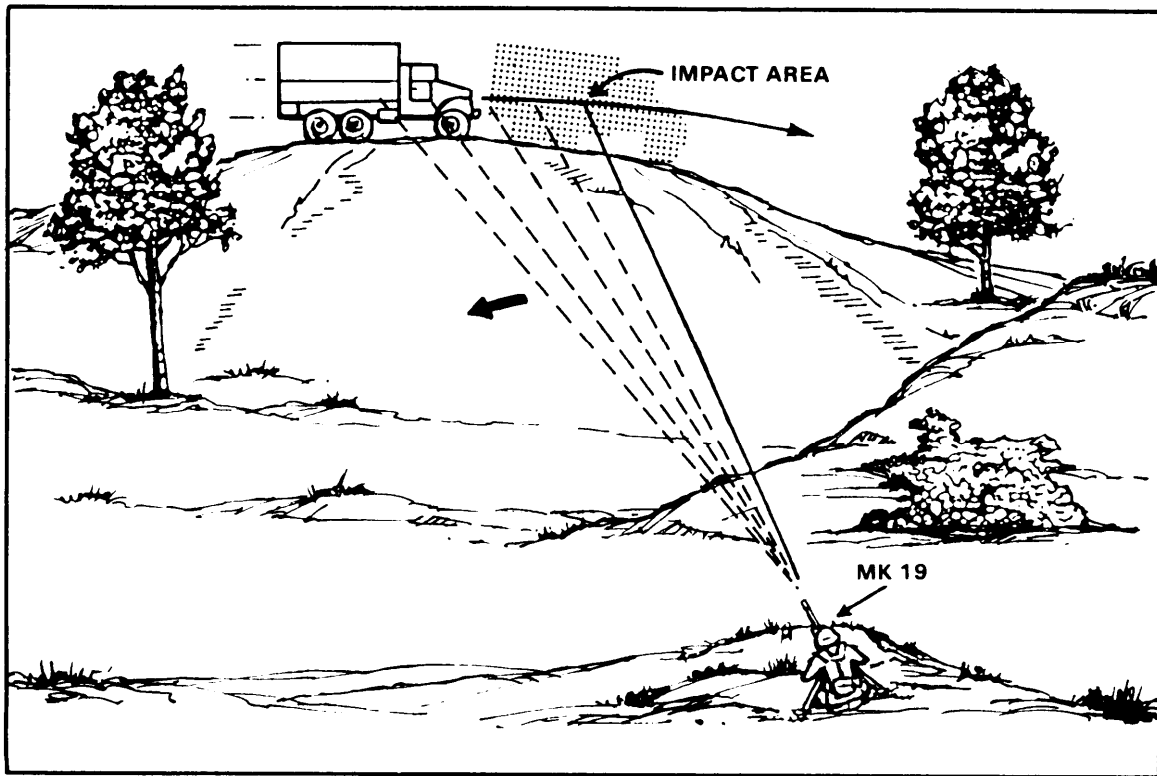

Figure 6-18. Target-trapping method.
f. Engagement of Moving targets. Due to the slow flight of the MK 19 round, it is not practical to engage moving targets using the track-and-lead methods of engaging moving targets. In order to effectively engage moving targets with the MK 19, use the trapping method of engaging targets. The gunner chooses an aiming point forward of the target and on the target path, and presses the trigger before the target comes into the sights. After starting to fire, the gunner moves the MK 19 slowly toward the target. The target moves into the impact area, and is "trapped." The gunner must begin firing before the target is in the sights or in the impact area (Figure 6-18).
(1) Engagement of deep target moving away from the MK 19 position. If the target is moving rapidly away, both gunners lay their MK 19s on the far end of the target with the range set to that point, and search up.